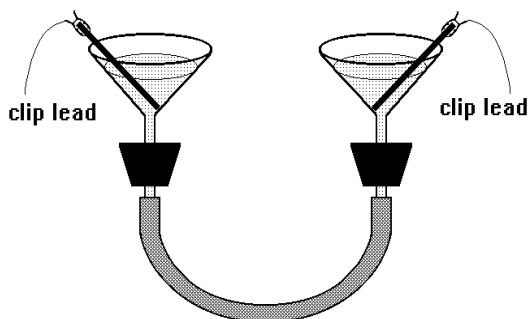

Figure 1. Funnel Apparatus with Electrodes
1. Set up the DC power supply. Refer to Figure 1 on next page for terminology and set up. It is important that you make the proper connections here. If the leads are improperly connected, then the multimeter will be damaged and will not show the correct readings.
2. Obtain an apparatus that consists of two funnels connected by a short length of plastic tubing, as shown in Figure 1. Attach clamps to the rubber stoppers on the stems of the two funnels and then to a support rod, producing a U-shaped configuration of the apparatus. The tops of the two funnels should be at the same height, a foot or so off the tabletop. Also, obtain two graphite (carbon) electrodes and two "clip leads." These are just fairly short lengths of insulated wire that have alligator clips attached to each end.
Question A: How do you interpret the color changes in each funnel? Draw the diagram in Figure 1 and indicate what color changes occur and write balanced chemical reactions for the processes that cause the changes.
3. Connect the proper lead from the multimeter to the spiral electrode. Connect the other lead from the multimeter to the graphite electrode. Be sure you are collecting the hydrogen gas at the spiral electrode! Do not put the graphite electrode into the solution in the beaker just yet. Refer to Figure 1.
4. Turn the power switch to the ON position. Adjust the voltage knob to get a reading of approximately 12.5 to 13.0 volts. Put the attached graphite electrode into the beaker as shown in Figure 1. Now adjust the current knob to get a reading of about 0.20 Amps. You will use the same setting for all part of this experiment, and there should be no further need for adjustments. Turn the power switch to the OFF position. Once again open the buret stopcock, and with a rubber bulb carefully draw the sulfuric acid solution up into the buret to top then close the stopcock, leaving no air bubbles. Turn the power on again and begin your first determination. The run time will be 10 minutes.
Referring to Figure 1 in the Lab manual, note any observations in your lab notebook.